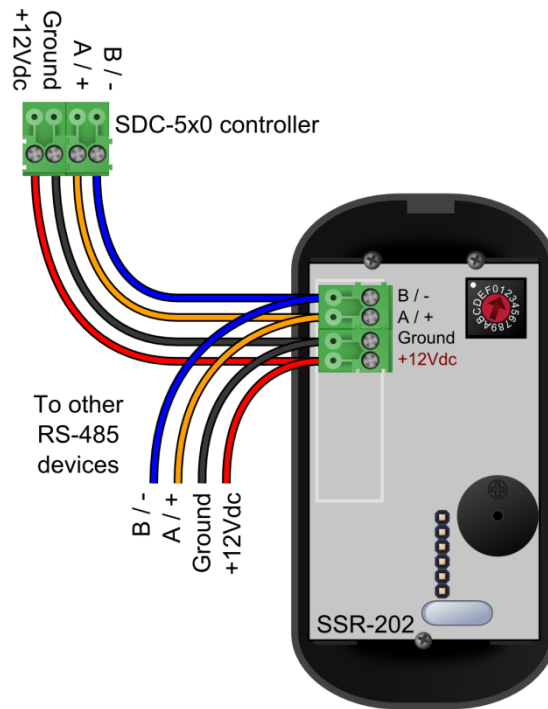
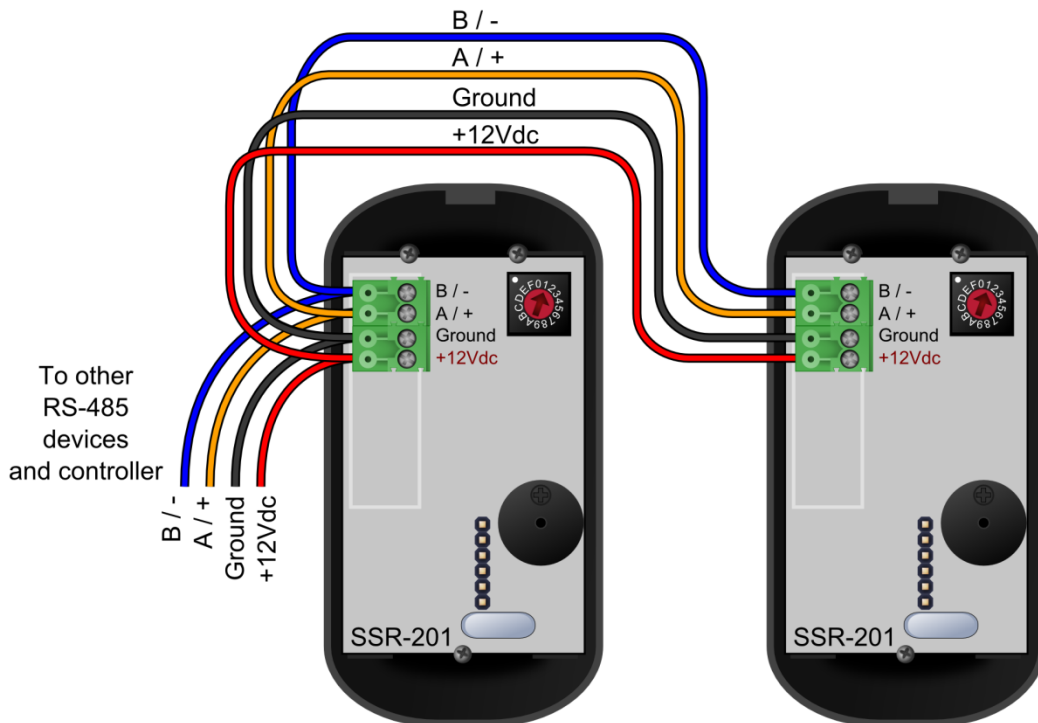

Figure 2
Figure 3
Step 1: Connect the reader network (See Fig 2 and Fig 3)
Step 2: Connect the power (See Fig 2 and Fig 3)